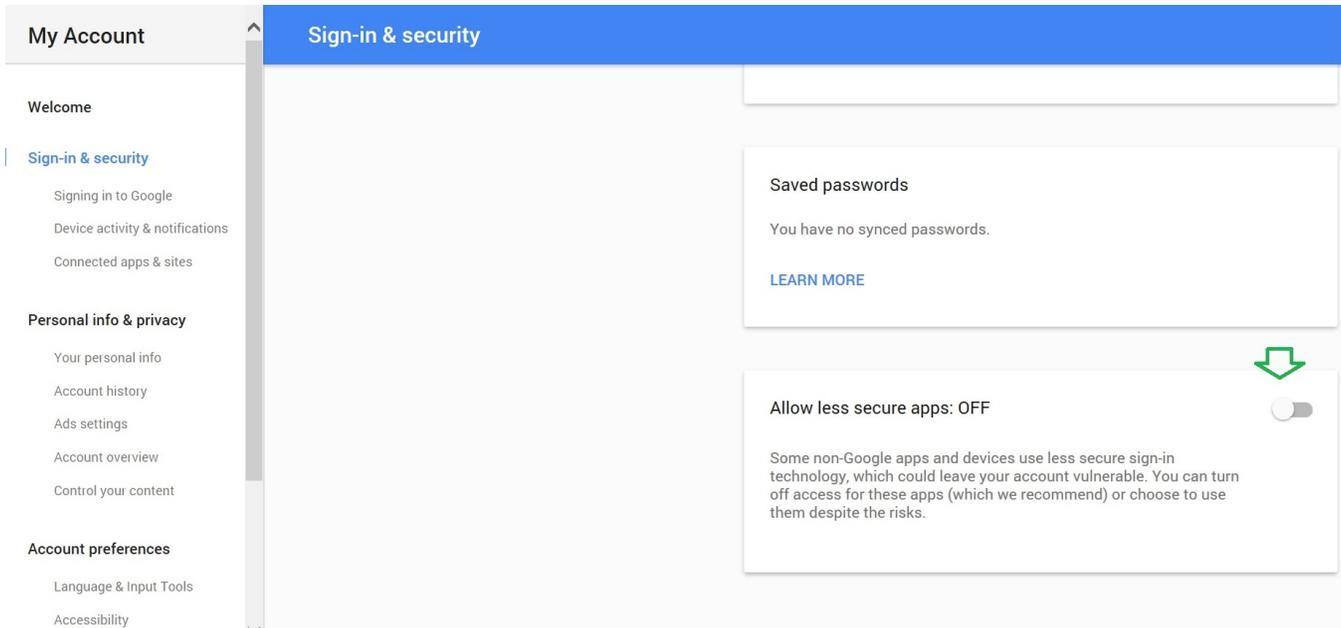

Figure 6. Security Setting Page in Gmail
4. Turn on Allow less secure applications. (See Figure 6.)